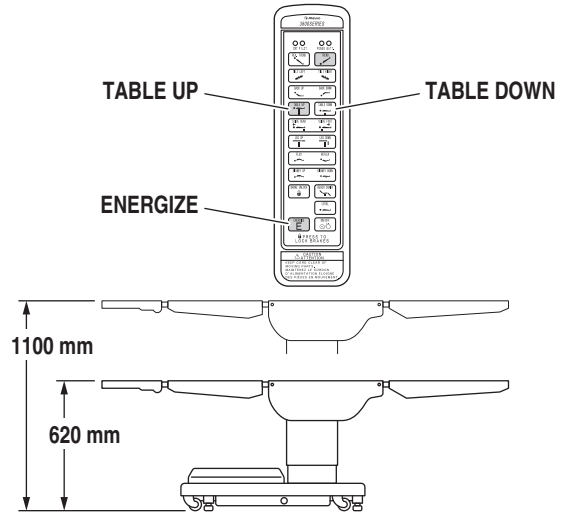

Figure 2-10. Elevation Function
e. Elevation To raise table top, press the ENERGIZE button and then the TABLE UP button (figure 2-10). The table will lift a patient weight of 450 kg up to a maximum height of 1100 mm (1205 mm with X-Ray top and 50 mm pad). To lower the table top, press the ENERGIZE button and then the TABLE DOWN button. The table top will go down to a minimum height of 620 mm (minus pad).